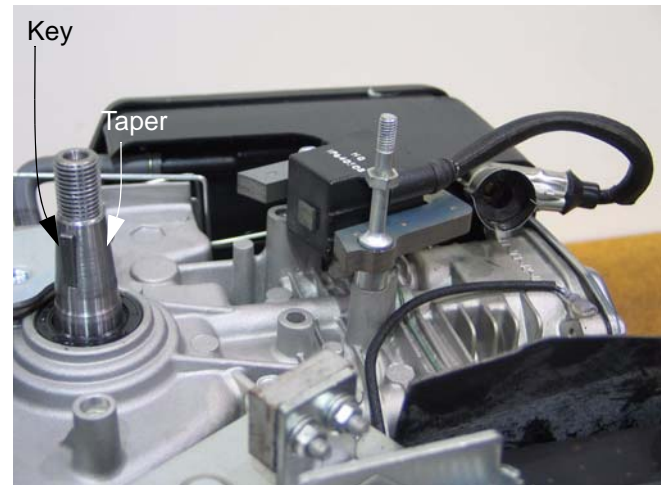

Figure 7.6
- 7.6. Inspect the key, keyway, and tapered mating surfaces of the flywheel and crankshaft. See Figure 7.6.